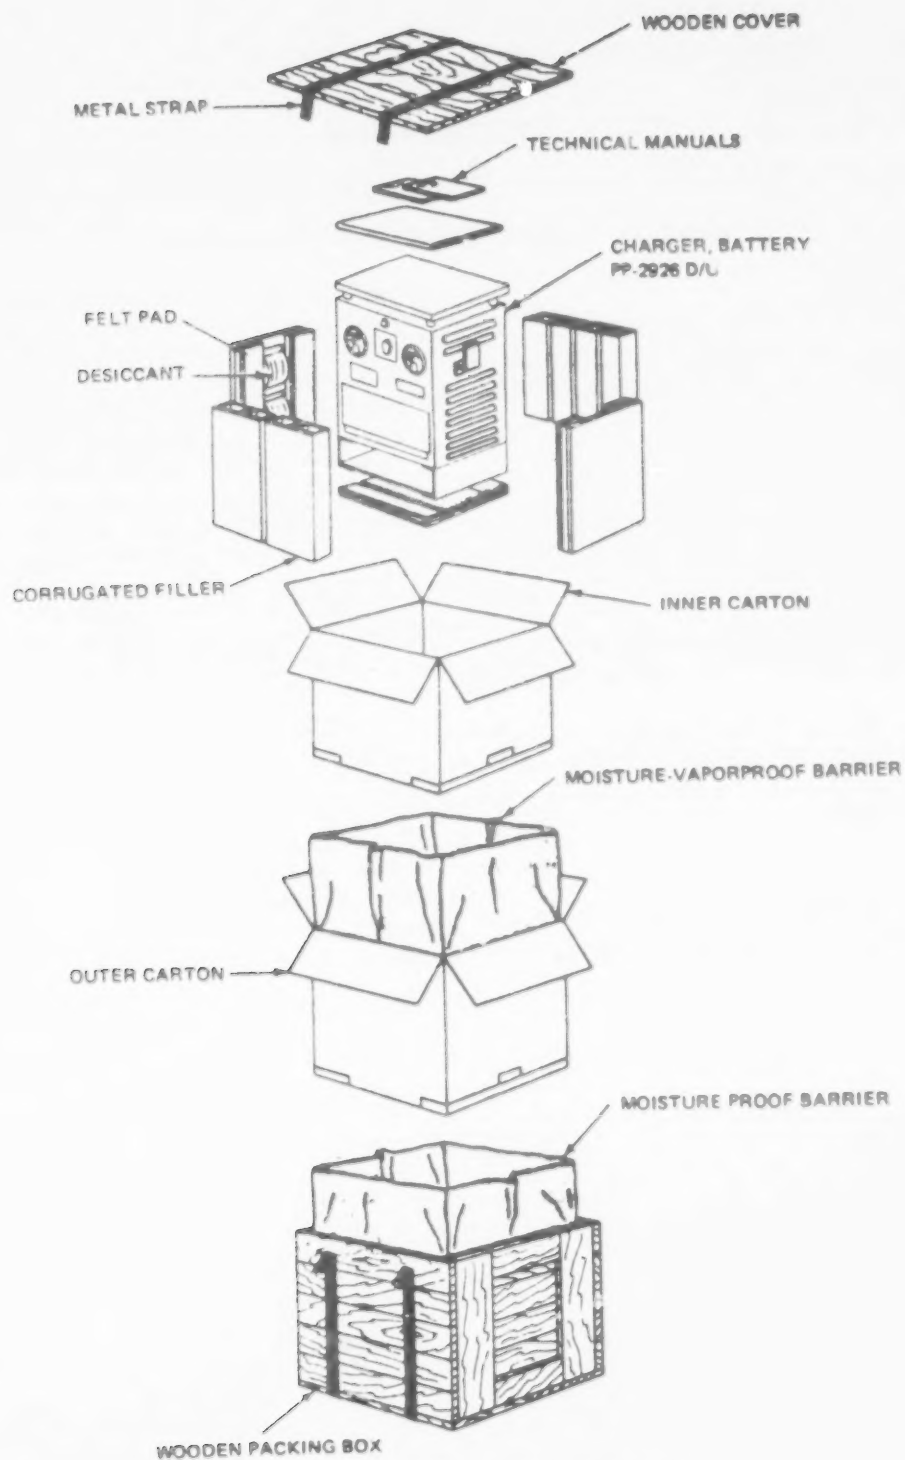

Figure 2-1. Typical Packaging EL6FX002
b. Removing Content. Perform all the steps given below when unpacking the equipment (fig. 2-1).
(1) Cut and fold back the metal straps.
(2) Remove the nails from the top and one side of the box with a nailpuller. Remove the top and the side.
(3) Open the moistureproof barrier that covers the carton inside the box and remove the carton.
(4) Open the carton and the moisture-vapor-proof barrier within the carton, and remove the inner carton; then, open the inner carton and remove the contents.